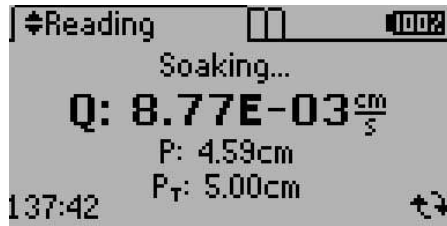

Figure 17 Status screen during test
- **Status Screen.** The Status screen shows the test status, such as **Soaking** (Figure 17). When the test is completed, it changes to the Results screen.